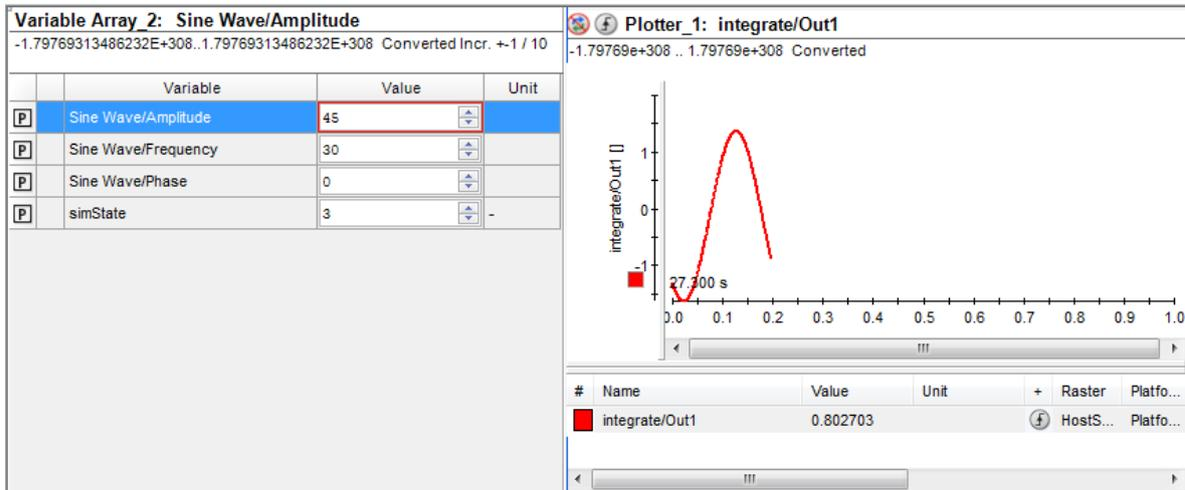

Figure 3.42 A **Variable Array** and a **Plotter** instrument displaying the parameter values and output signal in dSPACE's ControlDesk Next Generation.
7. The output signals from the FMU block can now be viewed from dSPACE's ControlDesk® Next Generation, see Figure 3.42.